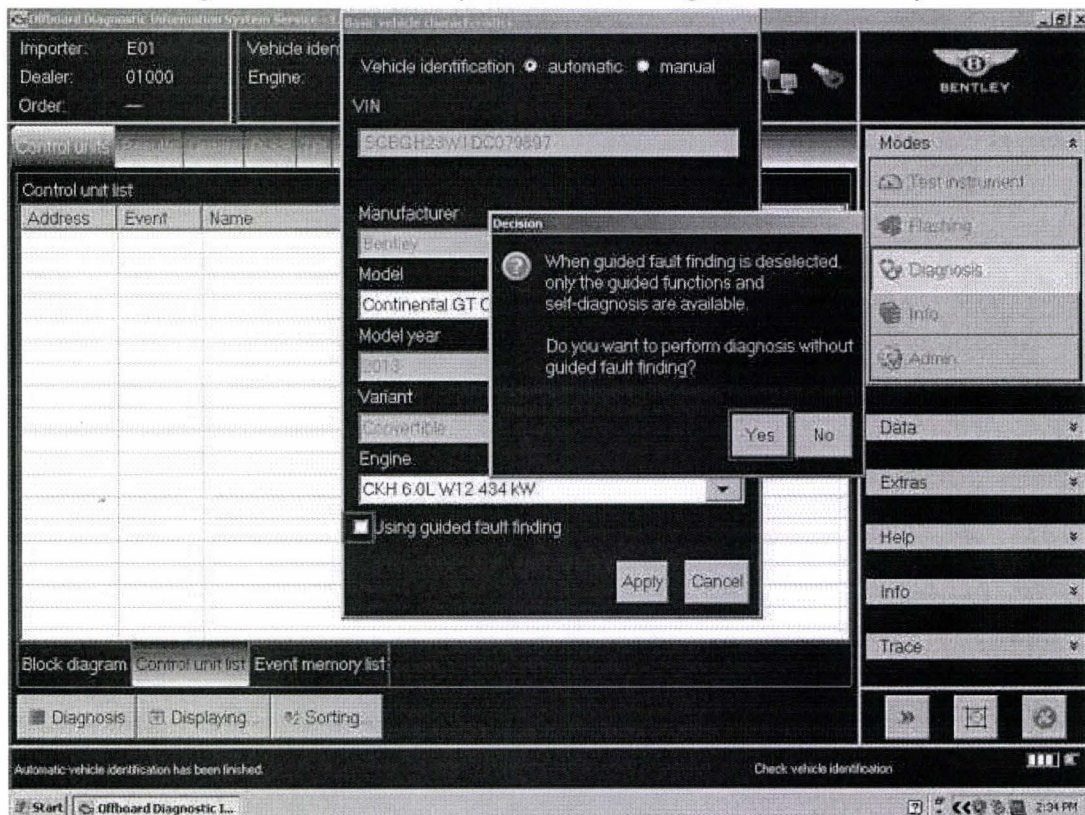

Figure 1
7. Deselect Guided Fault Finding – remove tick from *Using guided fault finding* option – then select *Yes* at pop-up and *Apply* (see Figure 1)